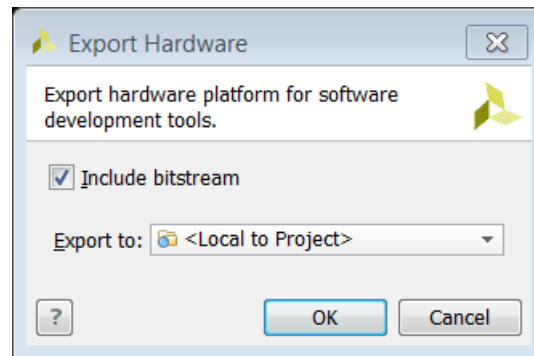

Figure 109: Export to Hardware Dialog Box
2. In the Export to Hardware dialog box, select the **Include bitstream** check box, shown in Figure 109. Make sure that the **Export to** field is set to **<Local to Project>**.